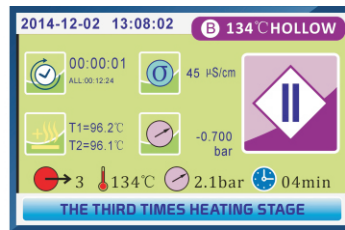

Fig.5.3-11
5.3.1.8.THE THREE TIMES HEATING STAGE(Fig.5.3-11)